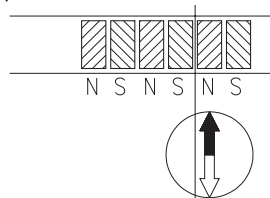

Fig. 11: Determination of the pole position. Cutting the magnetic strip
- If necessary, use a compass needle to determine the location of the poles on the magnetic strip (fig.11).